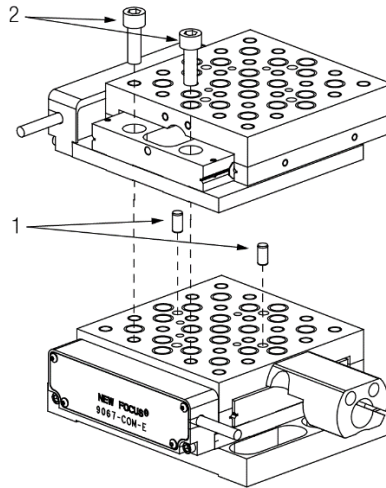

Figure 4 - Combining two stages to create an XY stage
2. Align the top stage to the dowel pins and install two socket-head cap screws (included, see the table below for screw size), as shown in Figure 4.